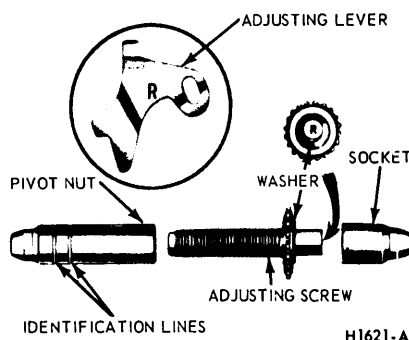

FIG. 19—Adjusting Screw and Lever Identification—F-100-250, E-100-200 and Bronco
justing mechanism operated. To prevent installation on the wrong side of the vehicle, the socket end of the adjusting screw is stamped with an R or L (Fig. 19). The adjusting pivot nuts can be distinguished by the number of lines machined around the body of the nut. Two lines indicate right hand nut; one line indicates a left hand nut.
10. Hook the cable hook into the hole in the adjusting lever from the backing plate side. The adjusting levers are stamped with an R or L to indicate their installation on a right or left hand brake assembly (Fig. 19).